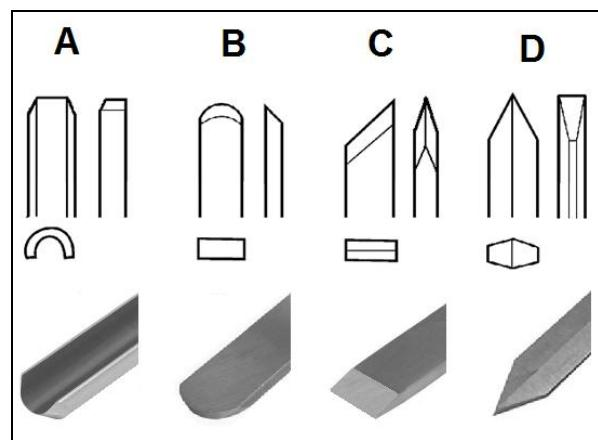
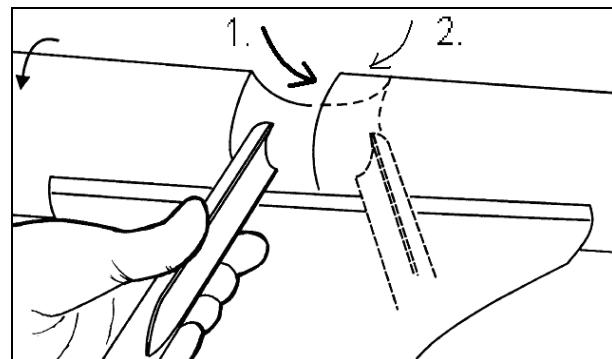
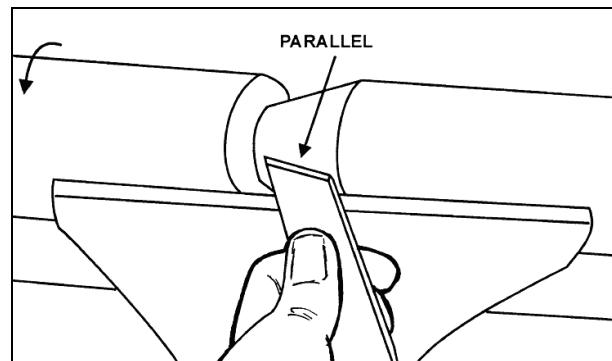

Fig 18
Fig 19
Fig 20
**Gouge (A, Fig 18),** used for rapidly cut raw wood into round stock, for turning bowls and plates, for turning beds, coves and other detail (Fig 19).
**Scraper (B, Fig 18),** used for diameter scraping and to reduce ridges.
**Skew Chisel (C, Fig 18),** used to make vees, beads, etc. (Fig 20). The bevel of skew is parallel to the cut.
**Parting tool (D, Fig 18),** used to cut directly into the material, or to make a cut off. Also used for scraping and to set diameters.